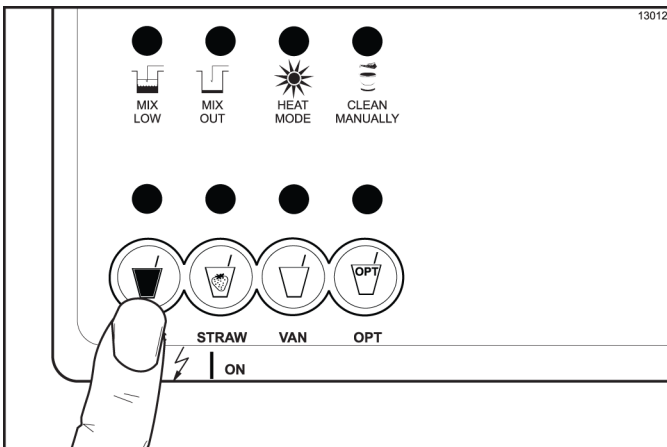

Figure 6-61
3. Push the corresponding flavor button for that syrup flavor. (See Figure 6-61.)